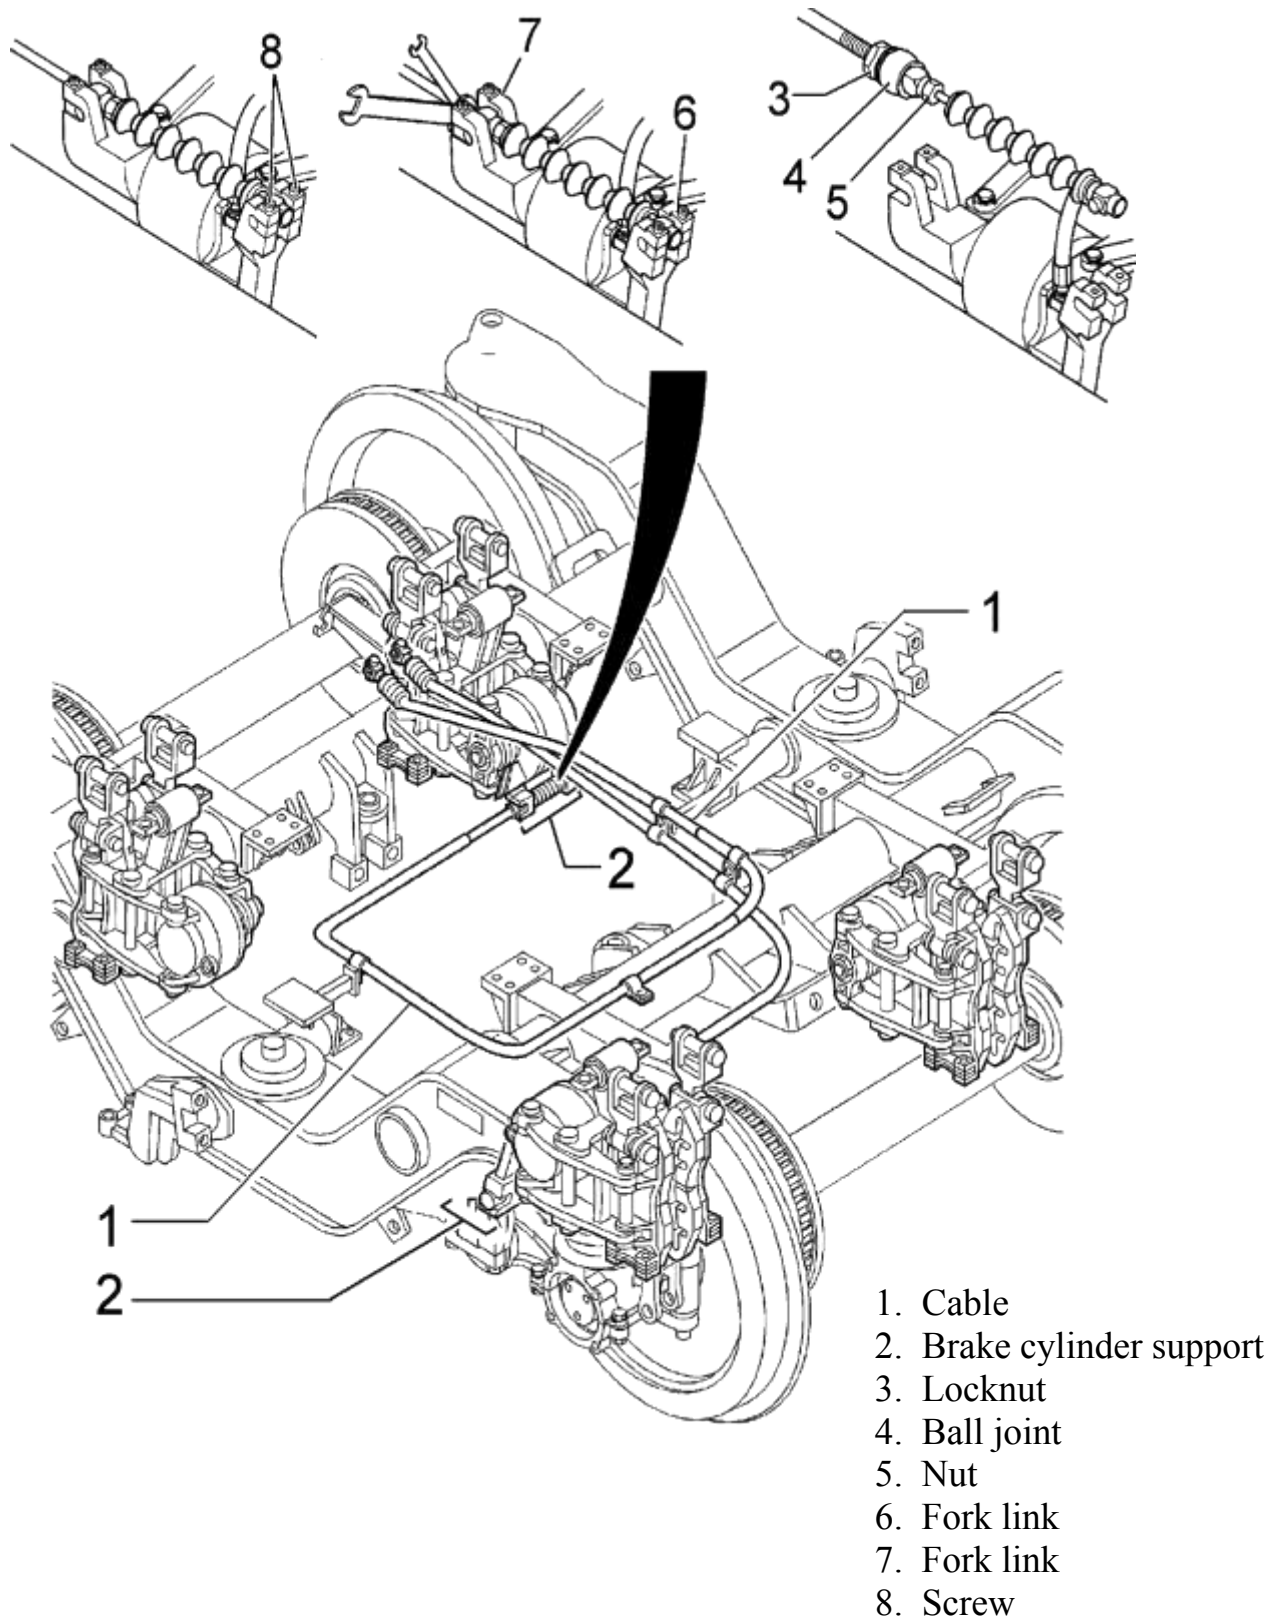

FIG. 4.35 Hand Brake Cables Removal 2/3
Then disconnect the other ends of the cables (1 - FIG. 4.35) from the brake cylinders (2): unscrew the screws (8) from both supports; rotate the locknut (3) and then the ball joint (4) until it touches the locknut (3) again. Unscrew the nut (5) and unlink the cable from both fork links (6) and (7).